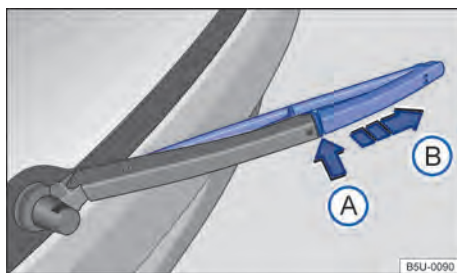

Fig. 164 Replacing the rear window wiper blades.
- Press and hold the release button → Fig. 164 ① pressed.
- Remove the rear window wiper blade in the direction of the arrow ②.